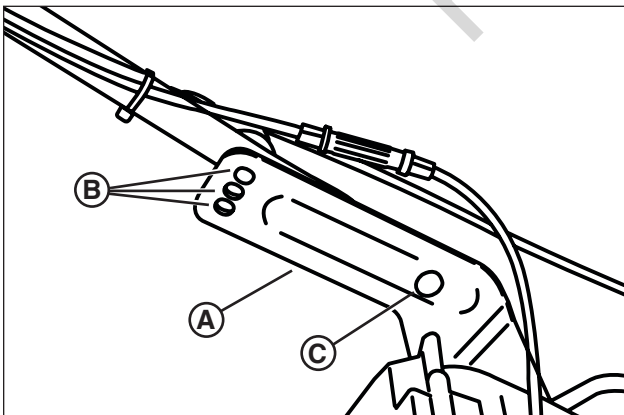

Figure 8: Adjusting the handle height
1. Remove the handle knobs, washers and carriage bolts from the lower handle (**A, Figure 8**).